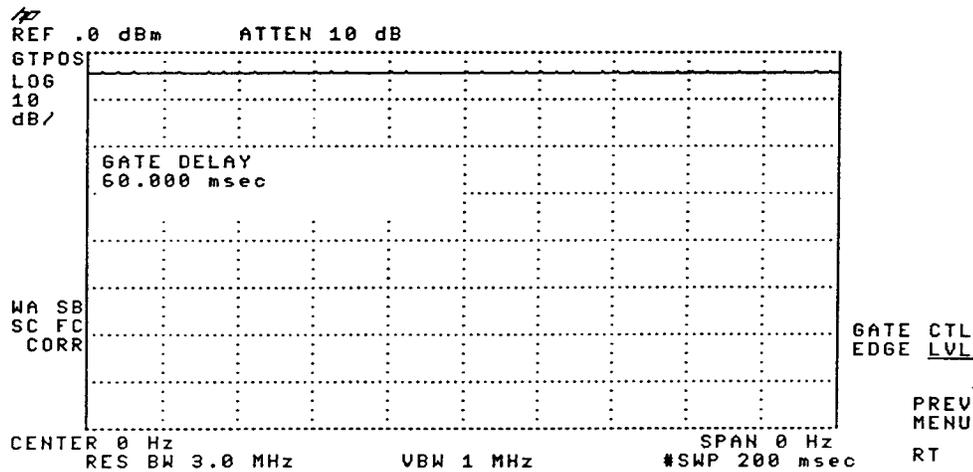

Figure 2-54. Using the Level Gate Control
4. To check the gate control function, press **SWEEP**, **GATE MENU**, **GATE CTL EDGE LVL** so that LVL (level) is underlined. (See Figure 2-54.)